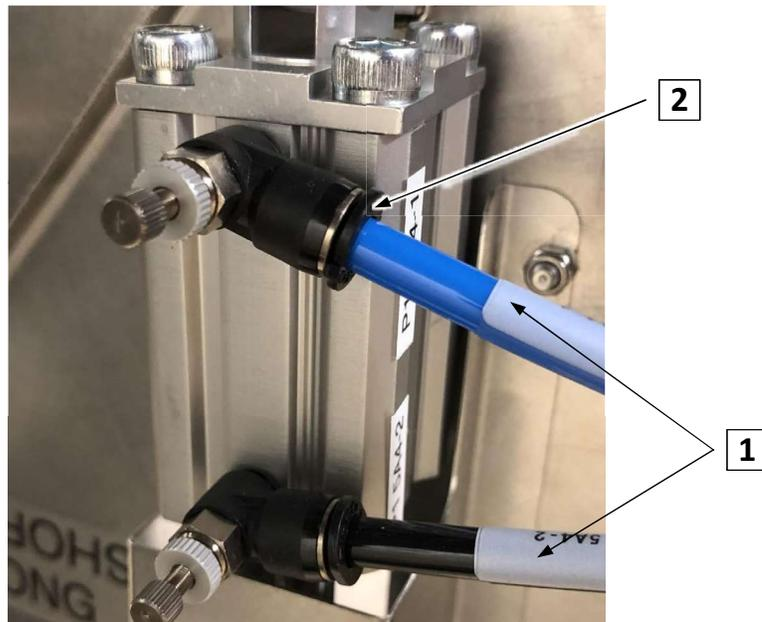

FIGURE 4-5. FITTING CONNECTORS
3. Push in on the air lines (Figure 4-5, Item 1) and hold while pressing in on the fitting connector ring (Figure 4-5, Item 2).